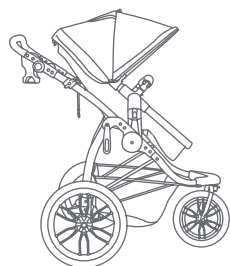

Fig. 18a
- 18)** • Seat **MUST** be forward and upright position (Fig. 18a).